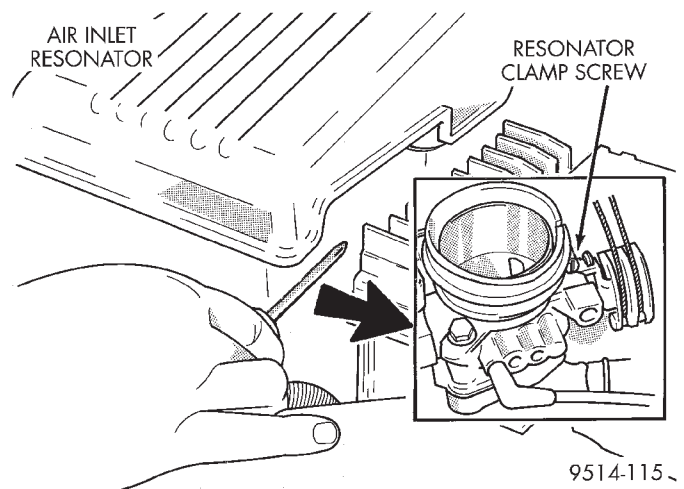

Fig. 93 Air Inlet Resonator Attachment to Throttle Body
- (1) Loosen screw holding resonator to throttle body (Fig. 93).
- (1) Remove bolt holding air inlet resonator to intake manifold.
- (2) Loosen screw holding resonator to throttle body (Fig. 93).
- (3) Loosen clamp holding resonator to air inlet tube. Remove resonator.